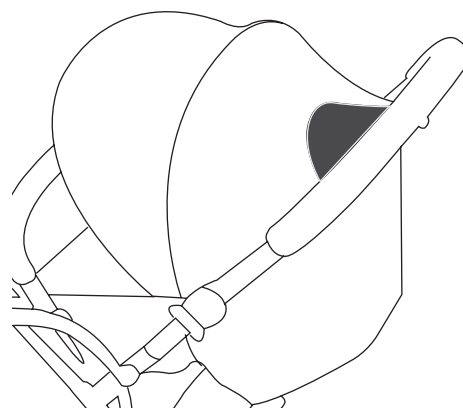

Fig. 8
- Peek-A-Boo window is located on the top center of the canopy (Fig. 8).